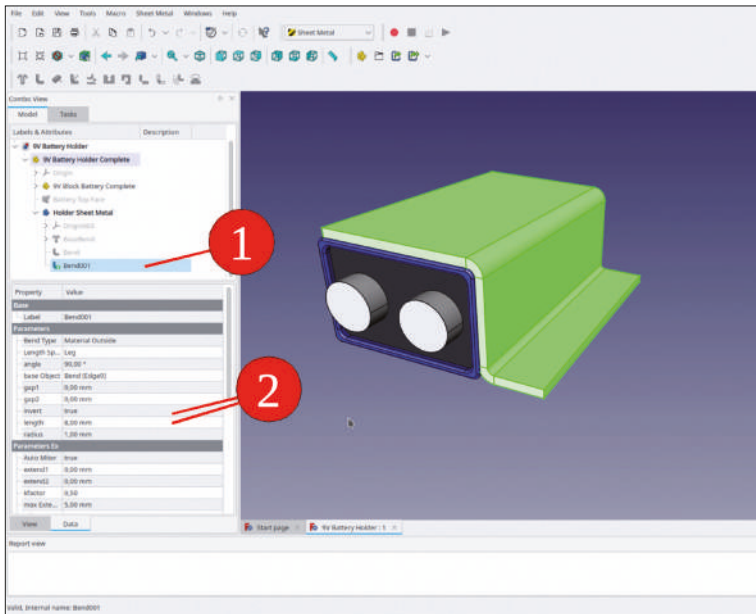

Figure 5-10
13. In the tree view, mark the new wall ('Bend001') and set the 'Invert' property to 'true'. For the length, insert 8 mm (Figure 5-10).